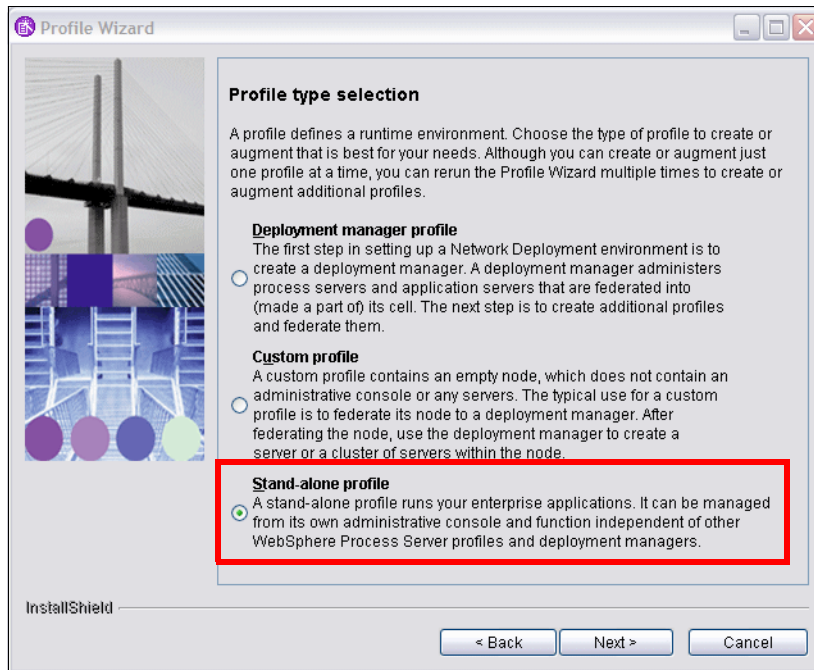

Figure A-22 WebSphere Process Server: Profile selection
- ▶ Select *Stand-alone profile* and click *Next* (Figure A-22).